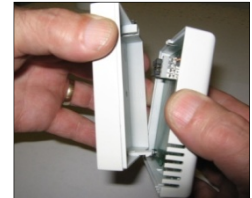

Fig 11
- Step 1** Using a screwdriver undo the screw on the top of the remote control case and pull the back case away (see Fig 11).